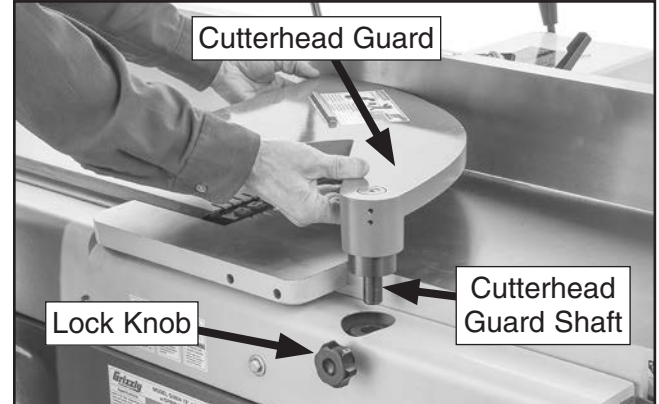

Figure 19. Installing cutterhead guard.
5. Install cutterhead guard shaft into mounting hole, as shown in **Figure 19**, then secure it using lock knob.